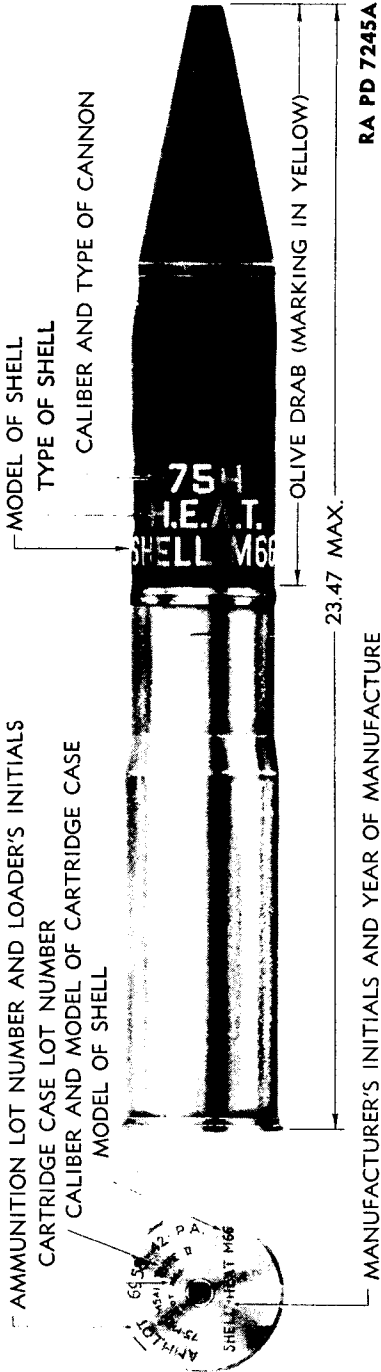

Figure 138 — Shell, Fixed, H.E., A.T., w/Fuze, B.D., M62, 75-mm Howitzer, M1, M1A1, M2, and M3
a. Ammunition for the howitzer, 75-mm M2 and M3 (figs. 138 through 142), is issued in the form of fuze complete rounds of fixed and semifixed ammunition. The term "fixed" signifies that the propelling charge is not adjustable and that the ammunition is loaded in the cannon as a unit. Fixed ammunition is characterized by the rigid crimping of the cartridge case, containing the primer and propelling charge, to the fuze projectile. The propelling charge is assembled loosely in the cartridge case. Semifixed ammunition also is loaded into the cannon in one operation, but the propelling charge is adjustable. In semifixed ammunition the projectile fits freely in the neck of the cartridge case, permitting ready access to the propelling charge.